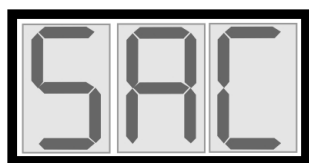
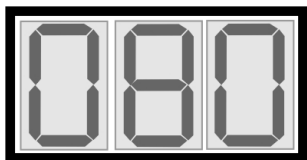

Fig.3
Fig.4
- The SAC message is viewed on the display for a few seconds to confirm the semi-automatic cycle has been selected (Fig. 3); subsequently, during batch freezing, the instantaneous consistency numerical value is displayed.(Fig. 4).